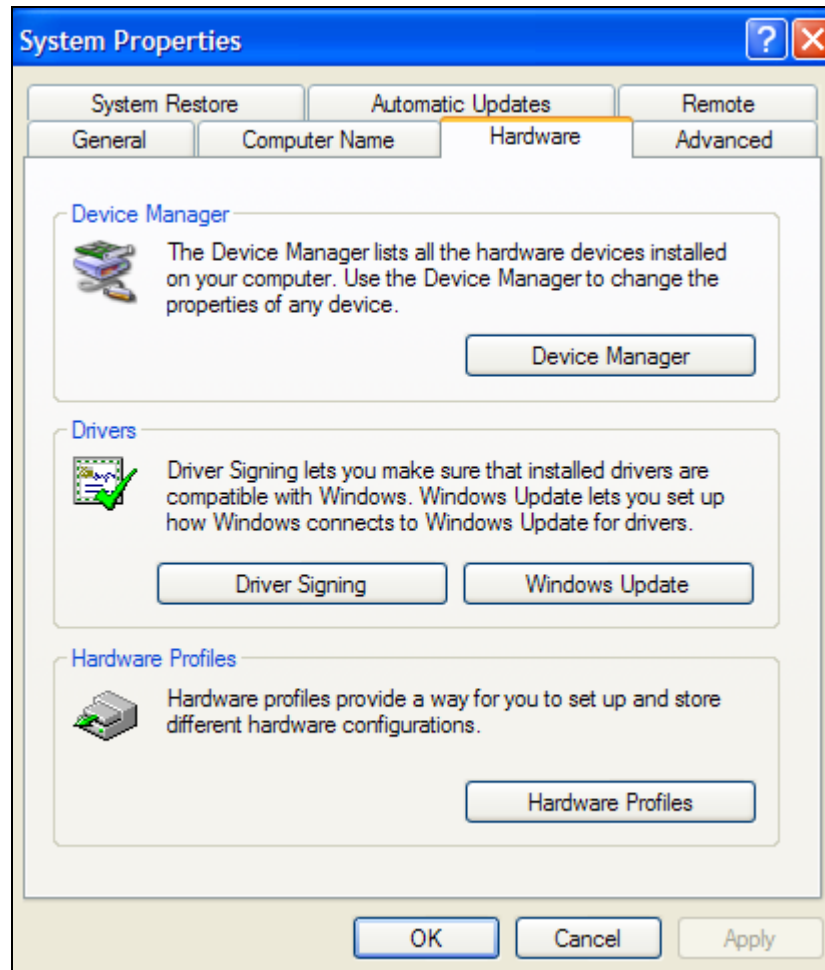

Figure 20. System Properties Hardware Tab
4. Click the **Hardware** tab at the top of the System Properties dialog box. Refer to Figure 20 on page 107.